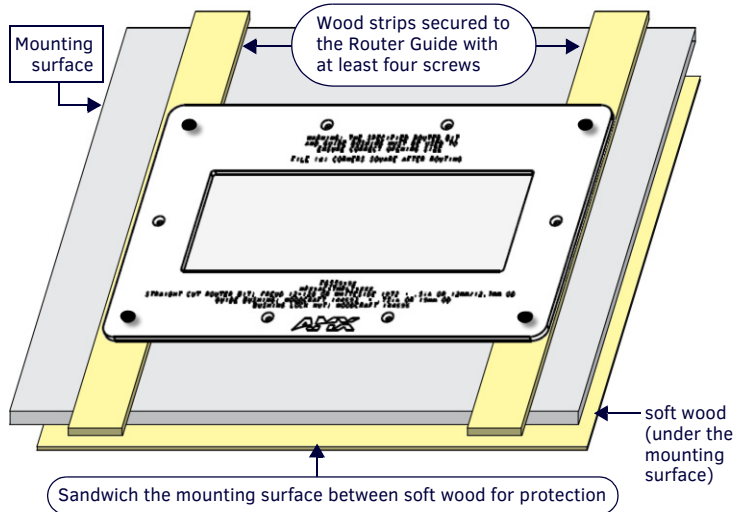

FIG. 6 POSITION THE ROUTER GUIDE AND PROTECTIVE SOFT WOOD STRIPS FOR INSTALLATION
3. Position a sheet of soft wood beneath the mounting surface to “sandwich” the mounting surface with soft wood. This will protect both sides of the mounting surface during installation (FIG. 6):